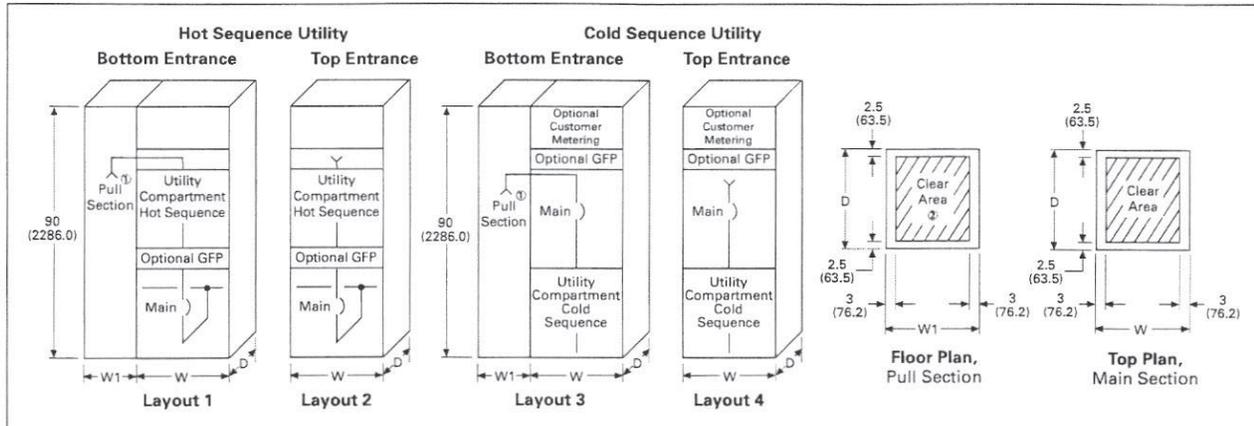

Figure 21.1-4. NEMA Utility Compartment Layouts — Dimensions in Inches (mm)
Table 21.1-5. Main Device Structure Size for Figure 21.1-4 Layouts
**Note:** Dimensions for Figure 21.1-4.